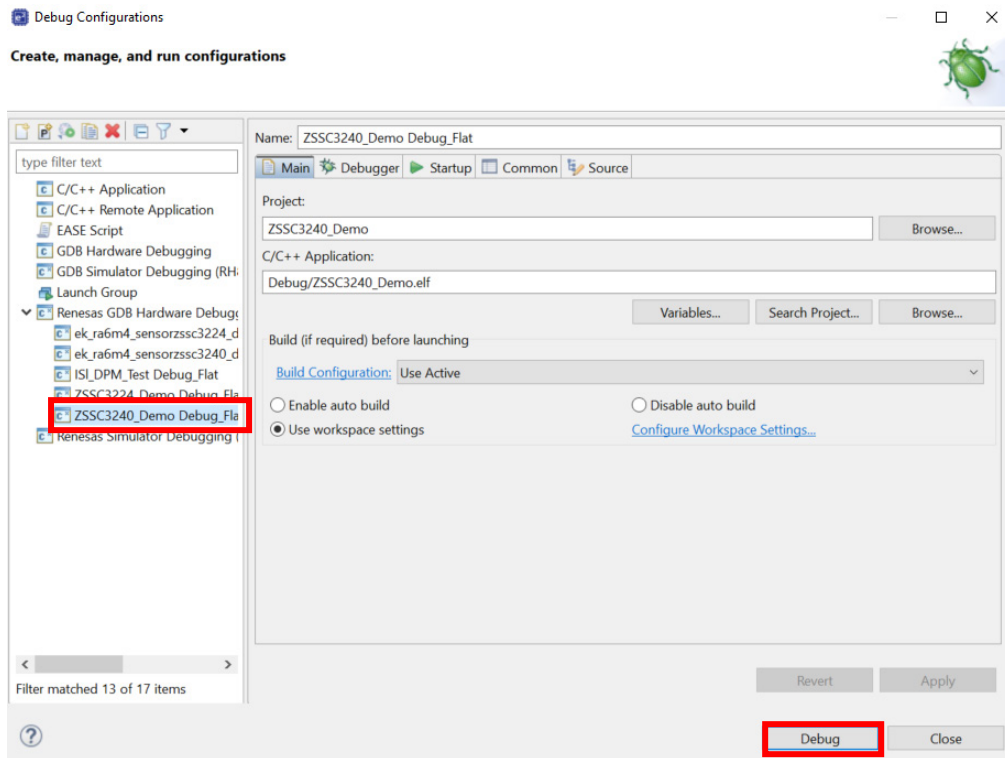

Figure 10. Start Debug Mode
4. Select **Renesas GDB Hardware Debugging** → **ZSSC3240_Demo Debug_Flat** (see Figure 10).